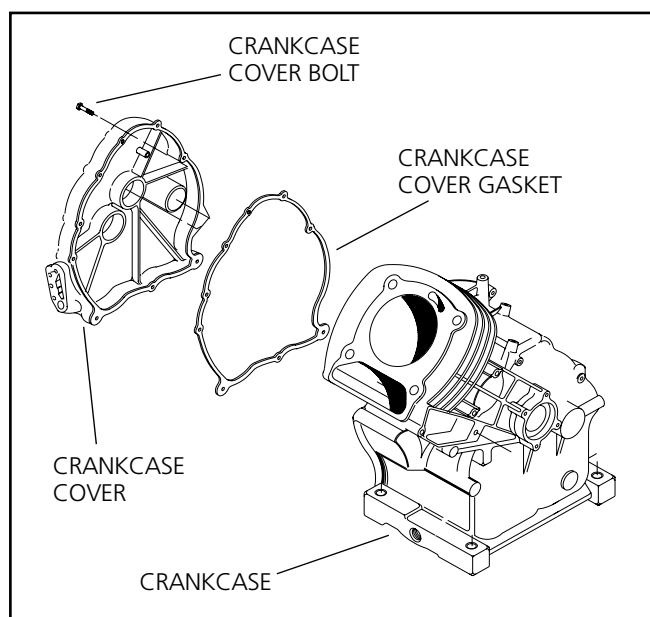

Figure 11-1. Crankcase Cover Removal
4. Remove the crankcase cover (Figure 11-1). If necessary, tap lightly with a soft hammer on alternate sides of cover. Be aware that the oil pump rotors may drop out as the crankcase cover is removed.